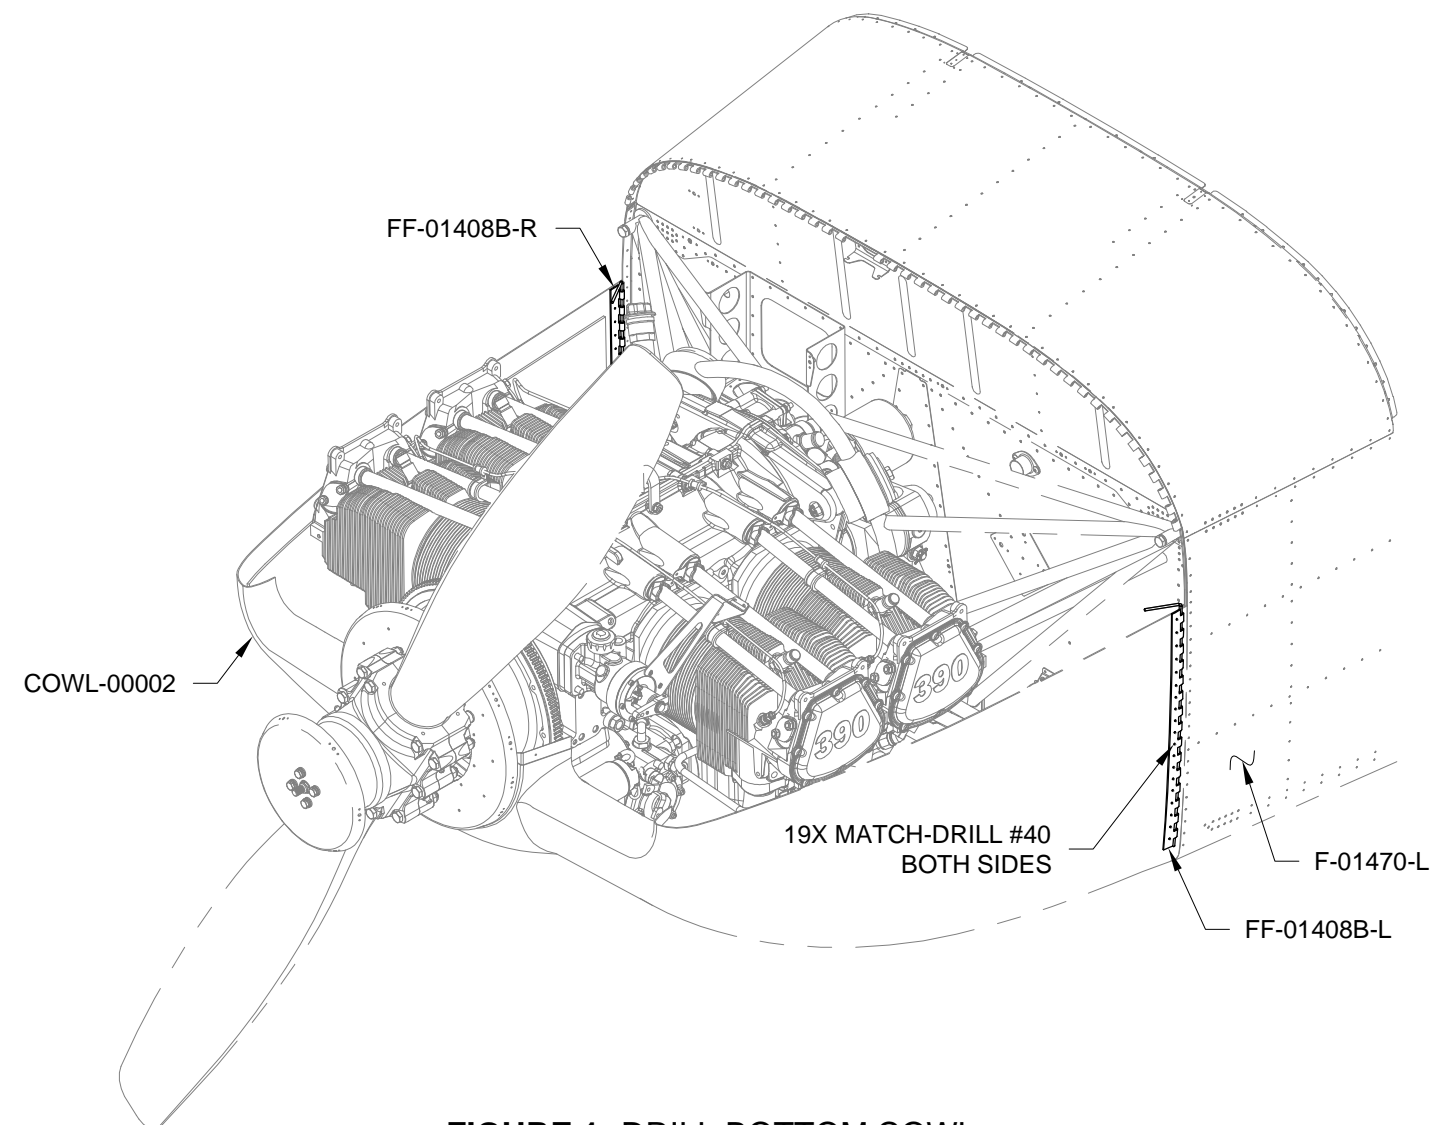

FIGURE 1: DRILL BOTTOM COWL
Step 1: Firmly clamp the lower halves of the FF-01409-L & -R Cowl Attach Piano Hinges to the inside of the COWL-00002 Bottom Cowl as shown in Figure 1 and Figure 2. The COWL HINGE PIN-LEFT and COWL HINGE PIN-RIGHT do not need to be installed at this point.